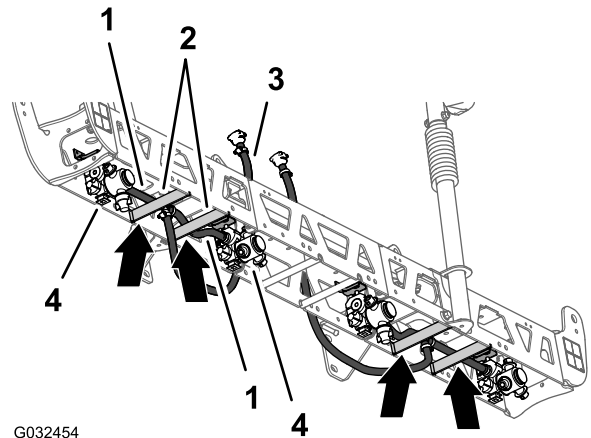
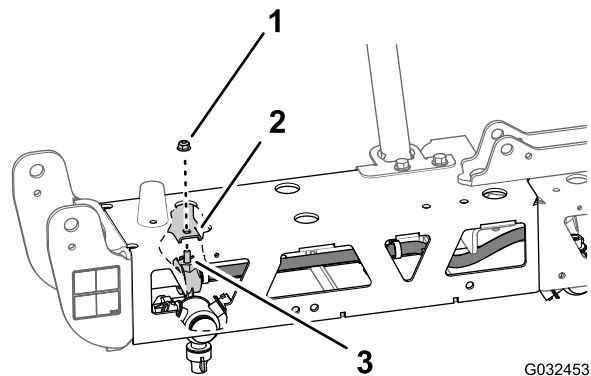

Figure 81
Figure 82
1. Route the hose 13 mm (10 inches) and nozzle assembly between the truss braces of the outer truss (Figure 81).
2. Route the hose and nozzle above the truss brace and outward to the outboard nozzle mount (Figure 81).
3. Align the hex-head bolt (5/16 x 3/4 inch) of the sprayer nozzle through the hole in the nozzle mount and loosely secure the nozzle to the mount with a flange locknut (5/16 inch) from the GeoLink spray system finishing kit (Figure 82).
4. Route the other hose 13 mm (10 inches) and nozzle assembly between the s truss braces of the outer truss (Figure 81).
5. Route the hose and nozzle above the truss brace and inward to the inboard nozzle mount (Figure 81).
6. Align the hex-head bolt (5/16 x 3/4 inch) of the sprayer nozzle through the hole in the nozzle mount (Figure 82) and loosely secure the nozzle to the mount with a flange locknut (5/16 inch) that you removed in steps 1 and 4 of Removing the Sprayer Nozzles (page 31).
8. Route the hose and barbed coupler 13 x 810 mm (1/2 x 32 inches) to the side of the center boom section with the left and right support brackets (Figure 81).
9. Repeat steps 1 through 8 for the other hose and nozzle assembly at the other outer truss (Figure 81 and Figure 82).